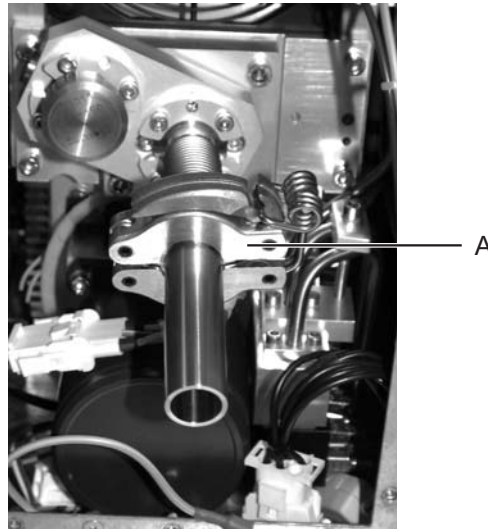

Figure 41: Clamping ring of the beam path shielding
12. Open the clamping ring (see Figure 41, A) to disassemble the beam path shielding.